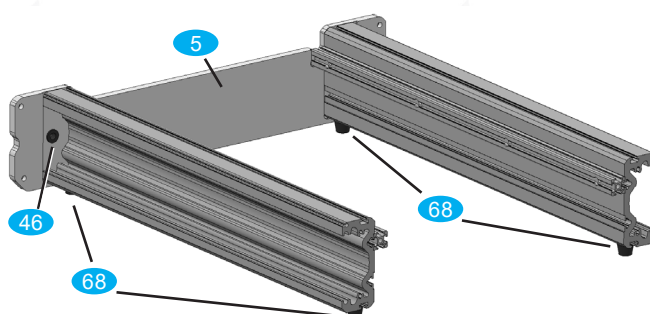

Fig. 15: Basic table structure
- Use the flat-head screws **G3** to screw the two pre-assembled table sides to the face plate **5**, as shown in Fig. 15. Do not tighten the screws.